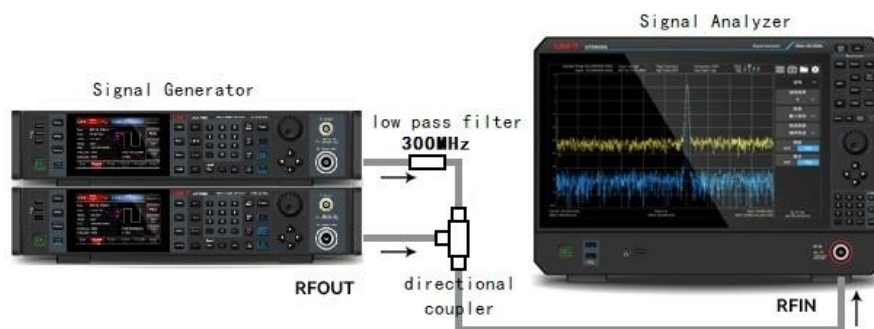

Figure 3-18 Instrument's Setting of Third-order Intercept Point Signal
1. Connect the instrument as shown in Figure 3-18, the two signal generators are connected to the input of a directional coupler through a low-pass filter, and the output of the coupler is a two-tone signal source with very low intermodulation distortion. Although the distortion performance of this connection is better than that of the signal analyzer, it is still useful to measure the TOI of the source/signal analyzer combination. After calibrating the TOI performance of the source/signal analyzer combination, the instrument under test (DUT) (e.g., an amplifier) is inserted between the output of the directional coupler and the input of the signal analyzer.